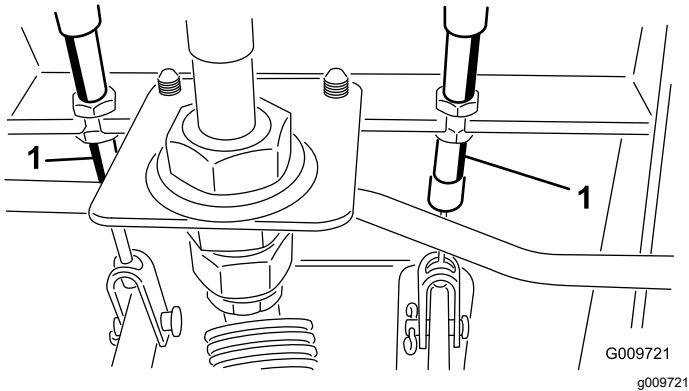

Figure 65
- A. Loosen the front nut on the threaded end of the brake cable (Figure 65).